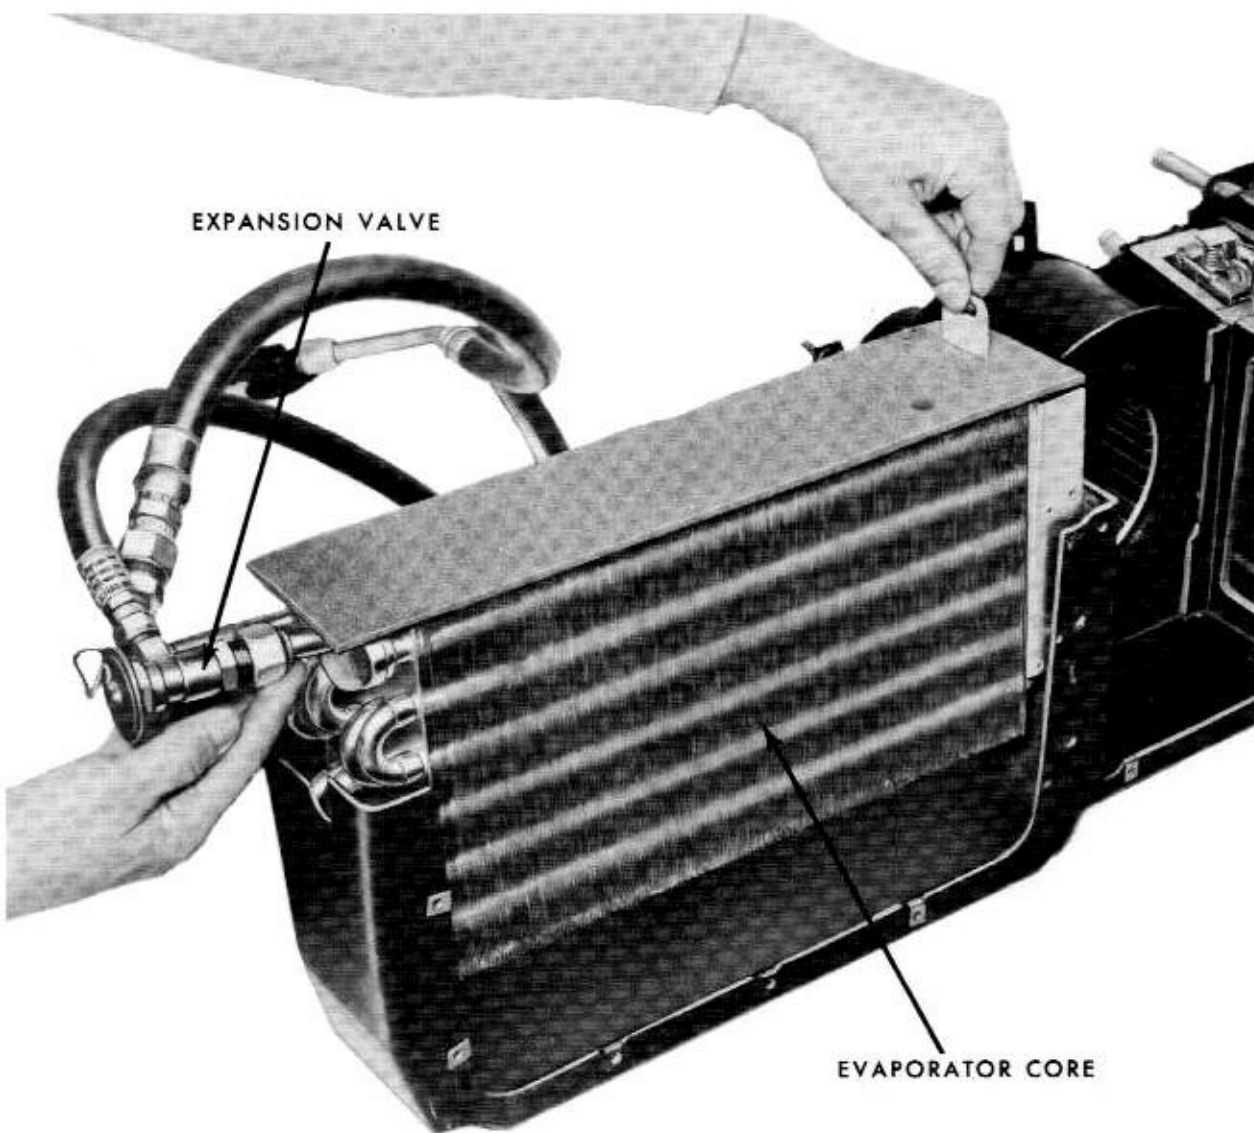

Fig. 5-11—Evaporator Core Removal—1960—(60E-7812)
5. Remove the evaporator, expansion valve, and refrigerant hoses as an assembly. (See figure 5-11.)